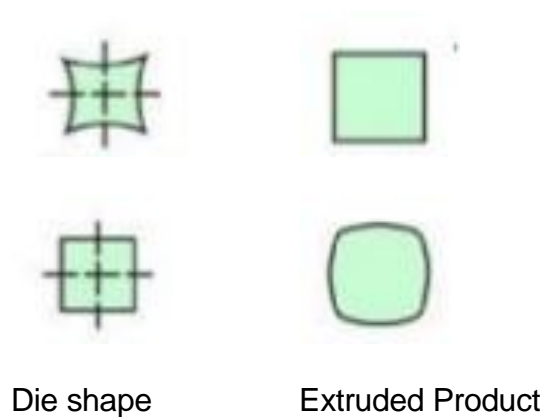

Figure 3: Difference between the shape of the die and the extruded section
- (2). (a). Figure 3 shows the difference between the shape of the die and the extruded section.